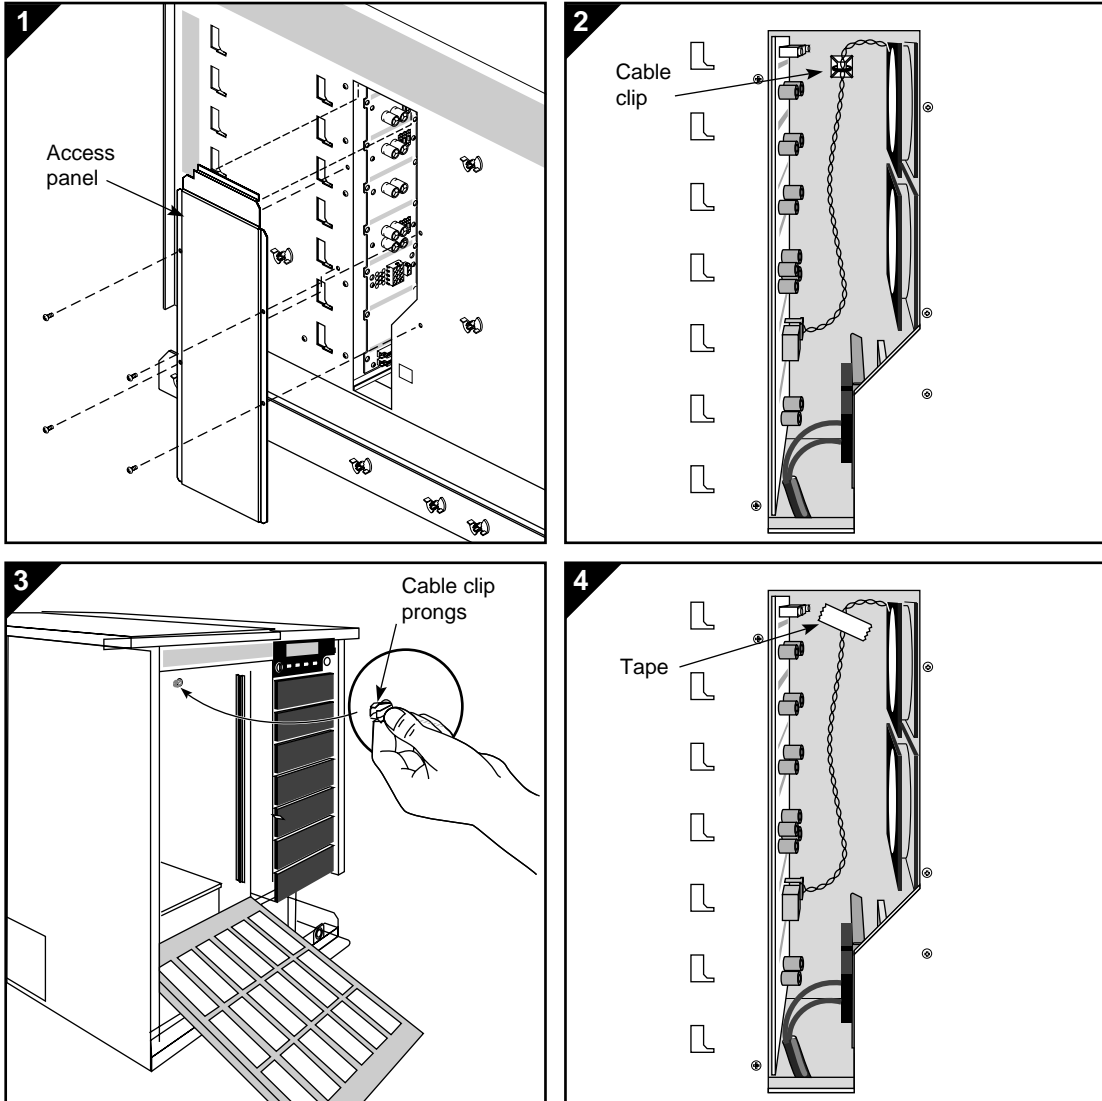

Figure 2-2 Removing the Cable Clip
- Figure 2-2 Removing the Cable Clip..... 2-4**
To remove the cable clip, see Figure 2-2 and complete the following steps: